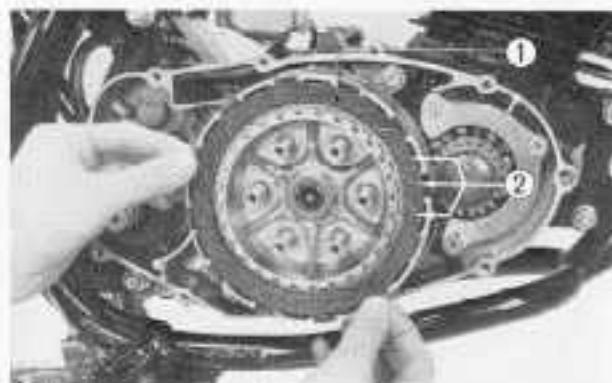

Fig. 3-14 ① Friction disc
2. Install the friction discs so that their grooves face in the direction shown in Fig. 3-14.